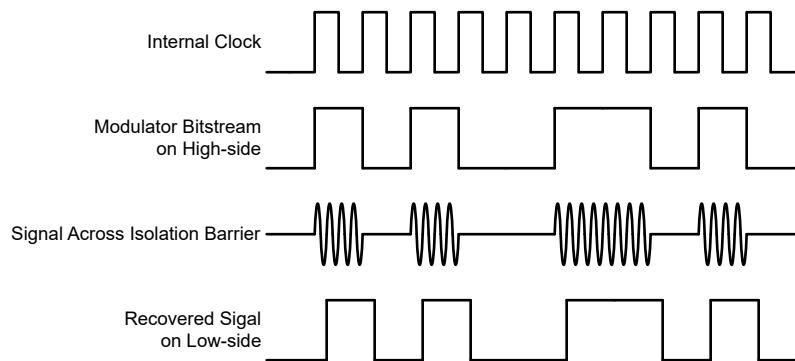

Figure 7-1. OOK-Based Modulation Scheme
As shown in Figure 7-1, the AMC0x11D-Q1 uses an on-off keying (OOK) modulation scheme to transmit the modulator output bitstream across the SiO_2 -based isolation barrier. The transmit driver (TX) is illustrated in the *Functional Block Diagram*. TX transmits an internally generated, high-frequency carrier across the isolation barrier to represent a digital one. However, TX does not send a signal to represent a digital zero. The nominal frequency of the carrier used inside the AMC0x11D-Q1 is 480MHz.